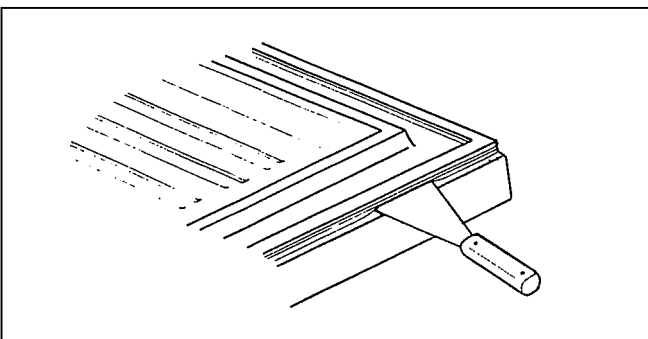

Figure B14 - Lid Inner Panel Removal
4. Slide a putty knife, or similar tool, between the lid gasket and the outer panel and pry each of the panel clips loose. See Figure B14.
5. Slide a putty knife, or similar tool, between the lid gasket and the outer panel and pry each of the panel clips loose. See Figure B14.